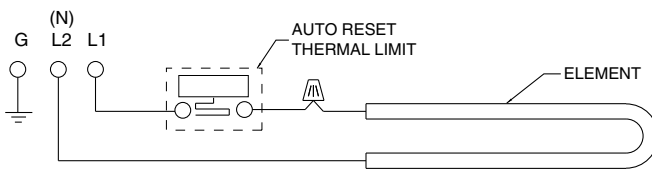

Figure 2. Wiring Diagram
2. Wiring procedures and connections must be in accordance with the National Electrical Code (NEC) and local codes. Refer to Wiring Diagram on heater and Figure 2. Make sure all electrical connections are tight to prevent possible overheating. Use Copper Supply Wire Only.
11. Do not remove or bypass the safety limit control(s) as this could allow heater to become a fire hazard – see heater wiring diagram supplied with heater and Figure 2.
6. Make the proper connections following the wiring diagram (Fig 2).